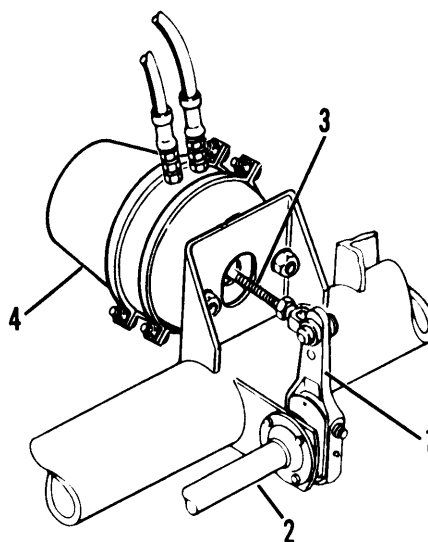

Figure 4-23. Slack Adjuster and Spring Brake Chamber
e. Slack Adjusters. The slack adjusters (1, fig. 4-23) are levers mounted on the brake camshafts (2). Push rods (3) of the air brake chambers (4) operate the slack adjusters (1) which in turn rotate the camshafts (2) causing the cams to press the brake shoes against the brake drums.
f. Spring Brake Chambers. The spring brake chambers (4, fig. 4-23) are mounted adjacent to the internal wheel brakes. The spring brake chambers convert air pressure into mechanical motion to operate the slack adjusters when applying brakes. The spring in the spring brake chamber may be caged in case of air loss or brake failure to move the semitrailer.